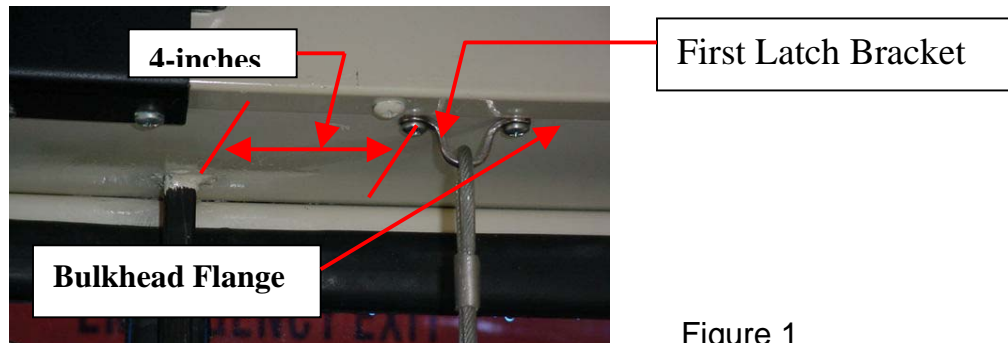

Figure 1
1. Mark the location of the first hole for the first latch bracket 4-inches to the right of the windshield center bar. Using the bracket as a template, align the bracket with the flange of the bulkhead to mark the location of the second hole. **Slip one end of the cable onto the bracket before attaching the bracket to the bus body.** Attach the bracket using the screws included in the kit. Figure 1 shows the result.